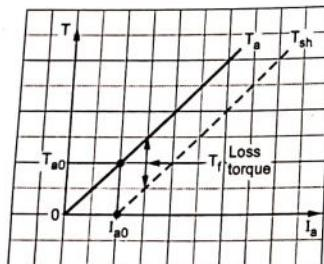

Fig. 8.8.1 T Vs  $I_a$  for shunt motor
- The equation represents a straight line, passing through the origin, as shown in the Fig. 8.8.1.